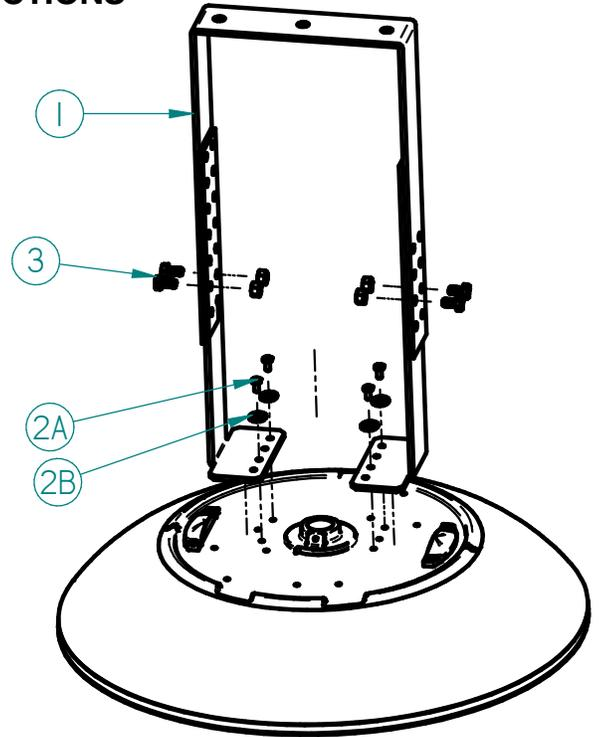

FIGURE 3
Mounting yoke to fixture(See Fig. 3)
- Fasten yoke (Item 1, Fig. 3) assembly to the top of the fixture using the #8-32 Torx screws and lock washers provided (Item 2A, Item 2B, Fig. 3).
- Using the channel locks, adjust the length of the yoke to the desired height by removing the $\frac{1}{4}$ "-20 bolts and nuts provided (Item 3, Fig. 3).